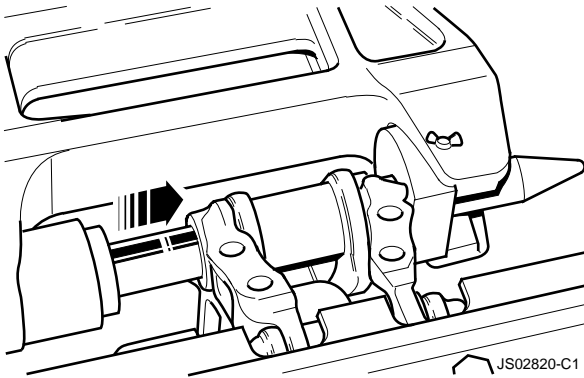

Fig 13.
- 7 Slowly operate the hydraulic ram and press the master pin into position → Fig 13. (□ J-6).